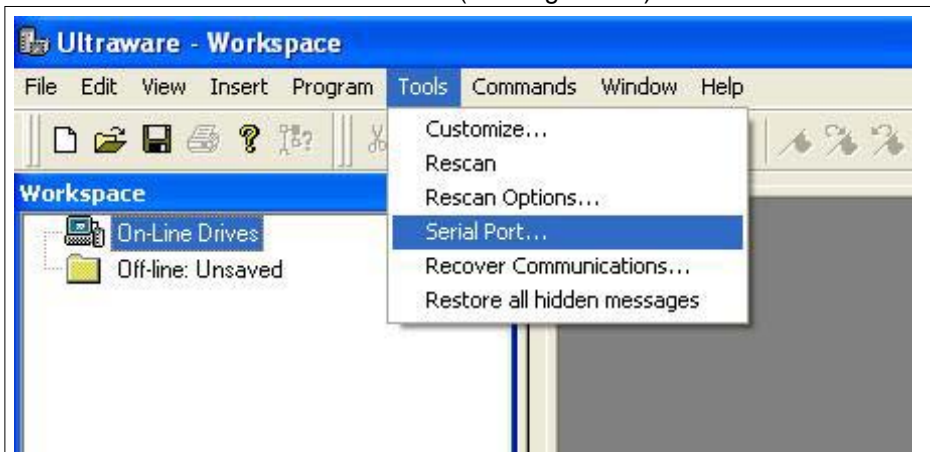

Figure 5-2
- a. Select **Tools** and then **Serial Port**. (See Figure 5-2)